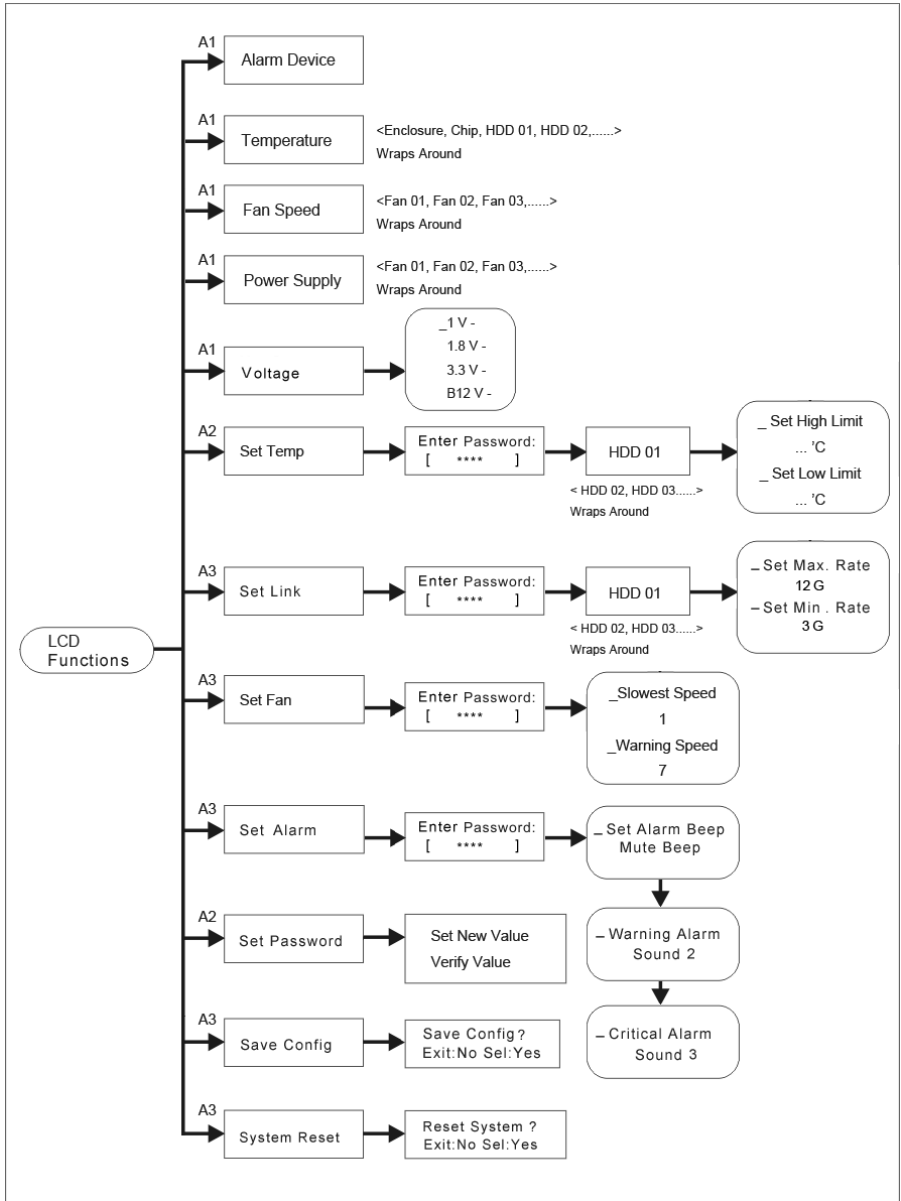

Figure 3.2-1 LCD Hierarchical Menu
Step 1. Open the "Taskbar Start"/"Programs"/"Accessories"/"Communications"/"Hyper Terminal". (Hyper Terminal requires version 3.0 or higher) (Figure 3.2-1)